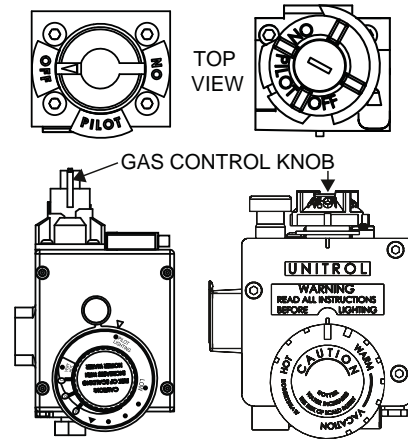

Figure 2
1. Turn the water heater gas control knob to "off" and allow the burner area to cool, see Figure 2.
1. Turn the water heater gas control knob to "off" and allow the burner area to cool completely, approximately 15 minutes, see Figure 2.